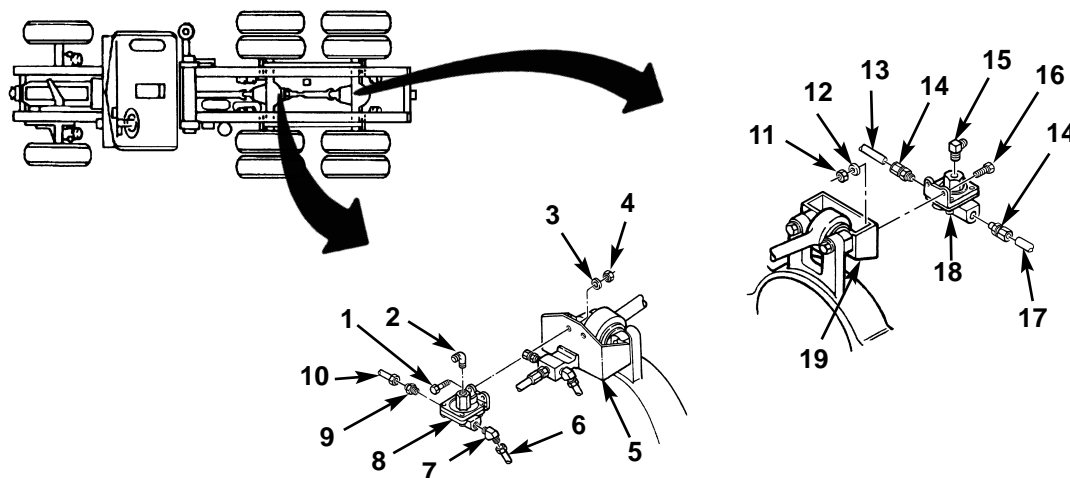

Figure 35. Removing Quick-Release Valves.
8. Disconnect tubes (figure 35, items 6 and 10) from adapter (figure 35, item 9) and elbow (figure 35, item 7), and remove adapter (figure 35, item 9), elbow (figure 35, item 7), and elbow (figure 35, item 2) from quick-release valve (figure 35, item 8).
9. Remove two locknuts (figure 35, item 4), washers, (figure 35, item 3), screws (figure 35, item 1), and quick-release valve (figure 35, item 8) from bracket (figure 35, item 5) on forward-rear axle. Discard all removed items in this step.
10. Disconnect tubes (figure 35, items 13 and 17) from two adapters (figure 35, item 14), and remove adapters (figure 35, item 14) and elbow (figure 35, item 15) from quick-release valve (figure 35, item 18).
11. Remove two locknuts (figure 35, item 11), washers, (figure 35, item 12), screws (figure 35, item 16), and quick-release valve (figure 35, item 18) from bracket (figure 35, item 19) on rear-rear axle. Discard all removed items in this step.